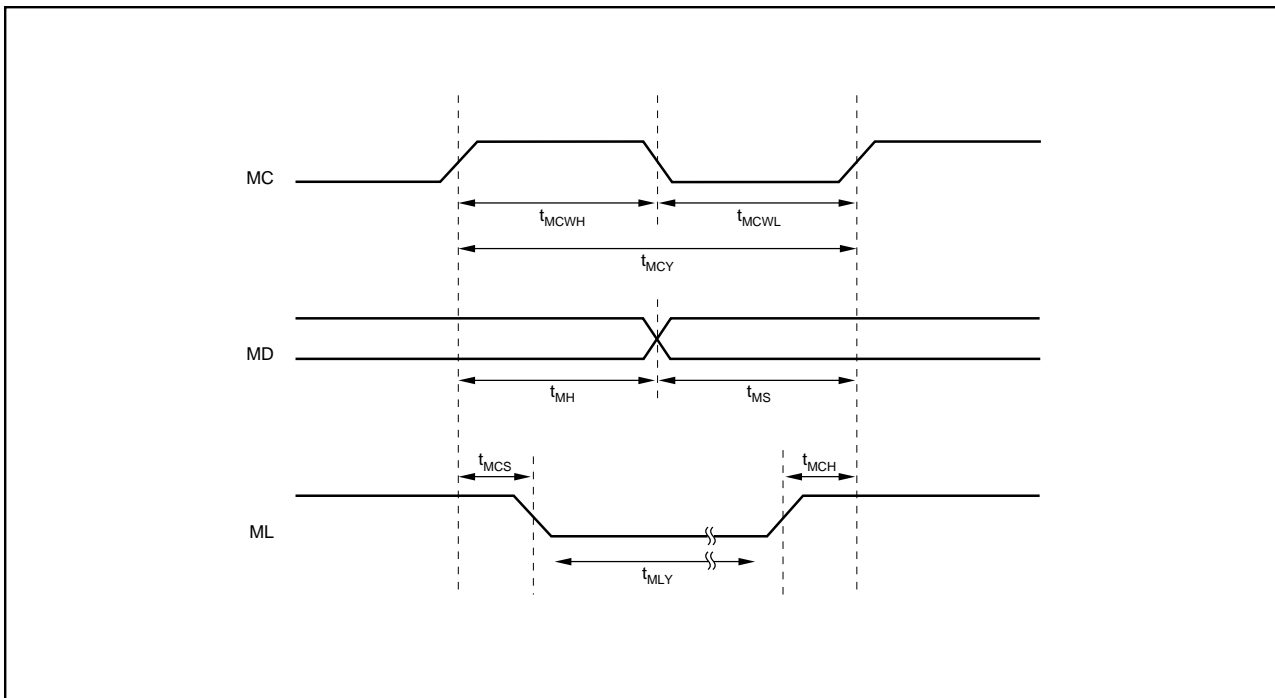

FIGURE 4. Serial Mode Control Timing.
**CAUTION:** Mode control signals operate on level triggered logic. The minimum timing conditions detailed in Figures 4 and 5 **MUST** be observed.